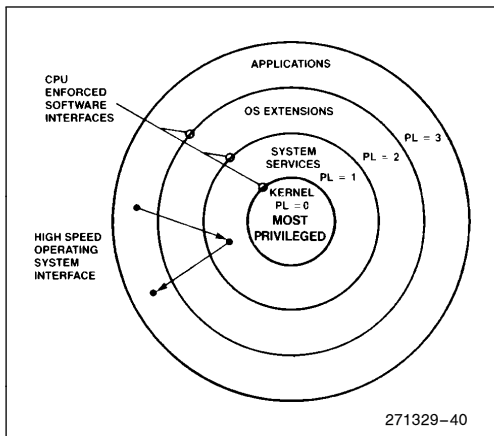

Figure 6-13. Four-Level Hierarchical Protection
The four-level hierarchical privilege system is illustrated in Figure 6-13. It is an extension of the user/supervisor privilege mode commonly used by minicomputers and, in fact, the user/supervisor mode is fully supported by the Military Intel486 processor paging mechanism. The privilege levels (PL) are numbered 0 through 3. Level 0 is the most privileged or trusted level.